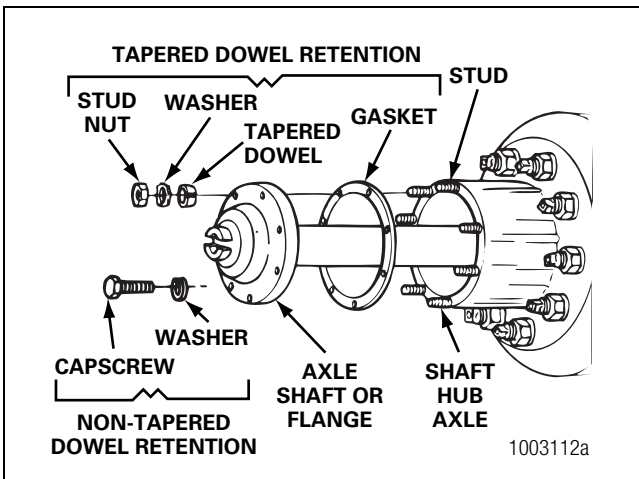

Figure 5.54
12. Install the gaskets and axle shafts into the axle housing and carrier. The gasket and flange of the axle shafts must fit flat against the wheel hub. Figure 5.54.
3. Install the gasket and the axle shaft into the housing. The gasket and the flange of the axle shaft must fit flat against the wheel hub. Figure 5.54.